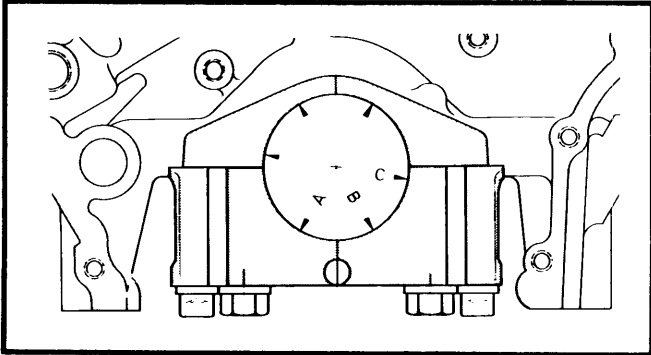

Fig. 5 Locations for Measuring Main Bearing Bore Diameter
1) Mount main bearing cap to cylinder block (without bearings in place). Measure inside diameter at three locations. See Fig. 5. Be sure cap is properly positioned when taking reading. Offset bearing caps can be moved into center position by lightly tapping them with a plastic hammer.